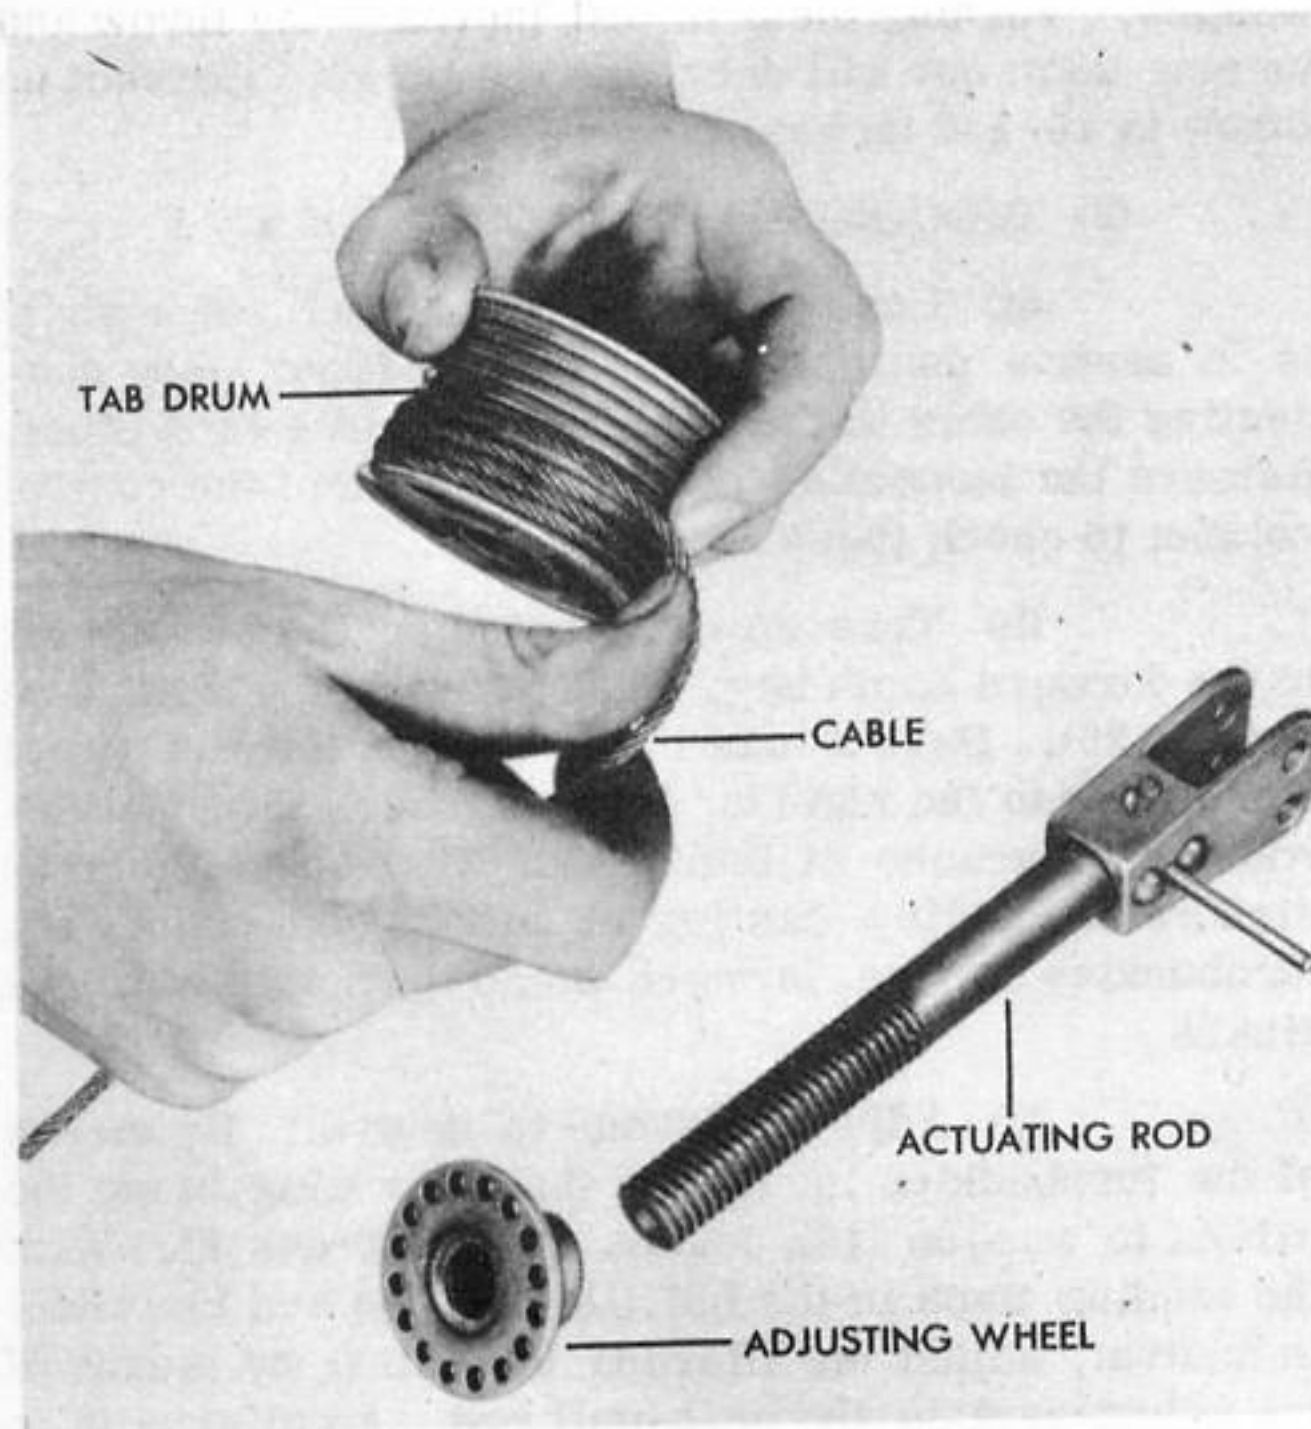

Figure 174 - REWINDING TAB DRUM
(5) REWINDING TAB DRUMS. (See figure 174.)